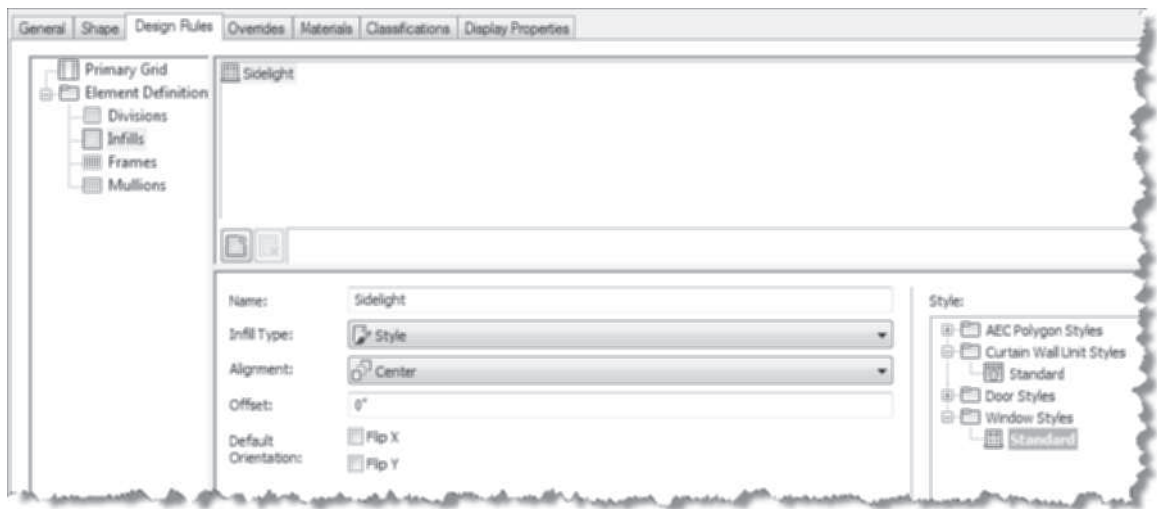

FIGURE 6.27 Specifying the window style for the infill
13. Edit the **Infill Type** in the lower-right pane to **Style**, expand the **Window Style** folder in the style window, and select **Standard** as shown in Figure 6.27.